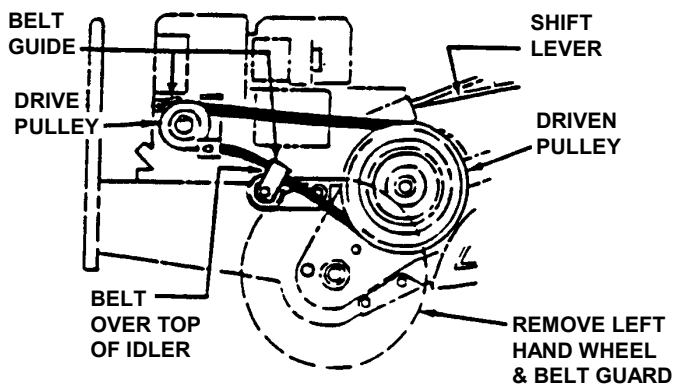

FIGURE 14
3.5.2. BELT REPLACEMENT: Pull the clevis pin from the left wheel and slide the wheel out 1", remove belt guard and then the old belt. NOTE: Replacement belt must go over the top of the idler and be within the belt guide as shown in Figure 14. Check belt tension as described in BELT TENSION ADJUSTMENT Section. Reinstall guard, push left wheel back into position, secure with clevis pin and insert, and secure cotter pin.